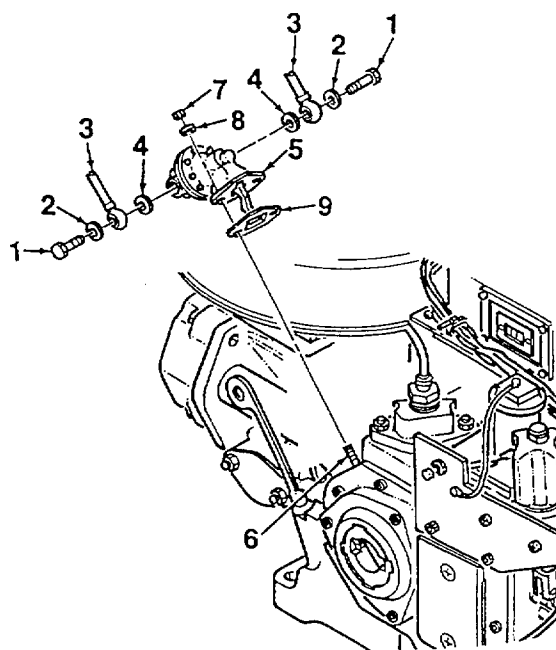

Figure 4-45. Mechanical Fuel Pump
2. Remove banjo bolts (1, Figure 4-45), washers (2), fuel pipes (3), and gaskets (4) from fuel pump (5).
3. Remove fuel pump (5) from engine studs (6) by removing two nuts (7) and washers (8). Remove gasket (9).
1. Mate gasket (9, Figure 4-45) to fuel pump (5). Install pump onto studs (6) and secure using two nuts (7) and washers (8).
2. Attach fuel pipes (3) to fuel pump (5) using bolts (1), washers (2), and gaskets (4).